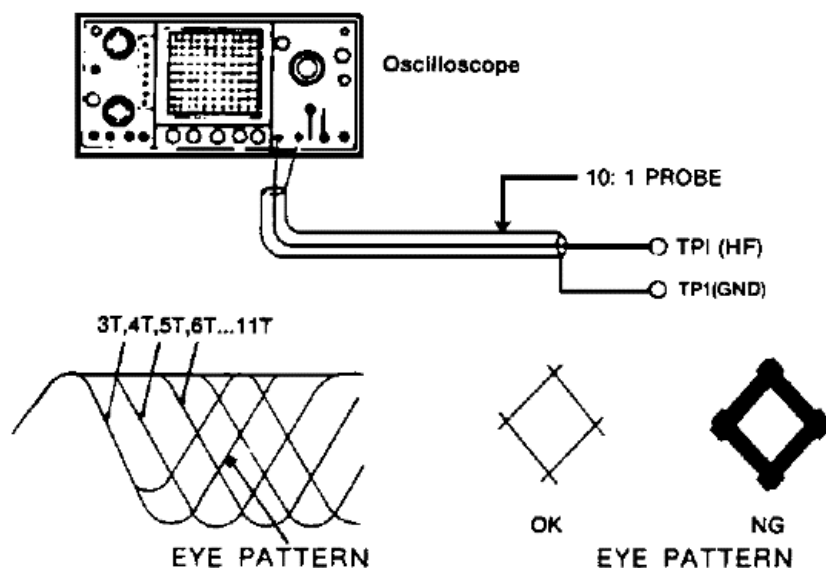

FIGURE 28-18 The scope connection and eye pattern in a Radio Shack CD player.
- 3 Adjust VR505 so that the eye pattern becomes clear and waveform (Vp-p) is maximum. When confirming the eye pattern, use the 10:1 scope probe (Fig. 28-18).